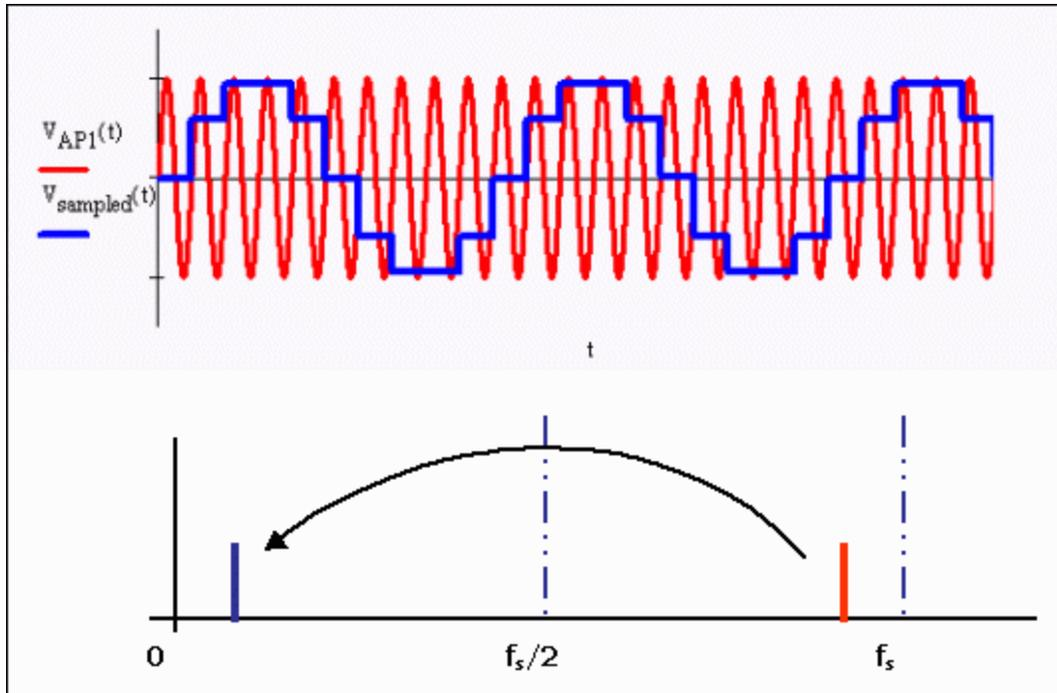

Figure 2. Aliasing in the frequency domain. A undersampled signal is mirrored at  $f_s/2$ .
**Figure 2** shows this phenomenon in the frequency domain, where we can see that signals higher than  $f \geq f_s/2$  are mirrored at  $f_s/2$ . The only possibility to avoid this is to ensure that no signals at higher frequencies are present in the signal of interest. That means we have to know the highest frequency in the signal of interest. The sampling frequency needs to be larger than two times this frequency. An initial thought by some might be to do that in the digital domain, but this will not work because it is impossible to remove unwanted frequencies from the signal once it has been sampled and the frequencies are aliased into the band of interest. Anti-aliasing must be done in the analog domain, before the signal is sampled.